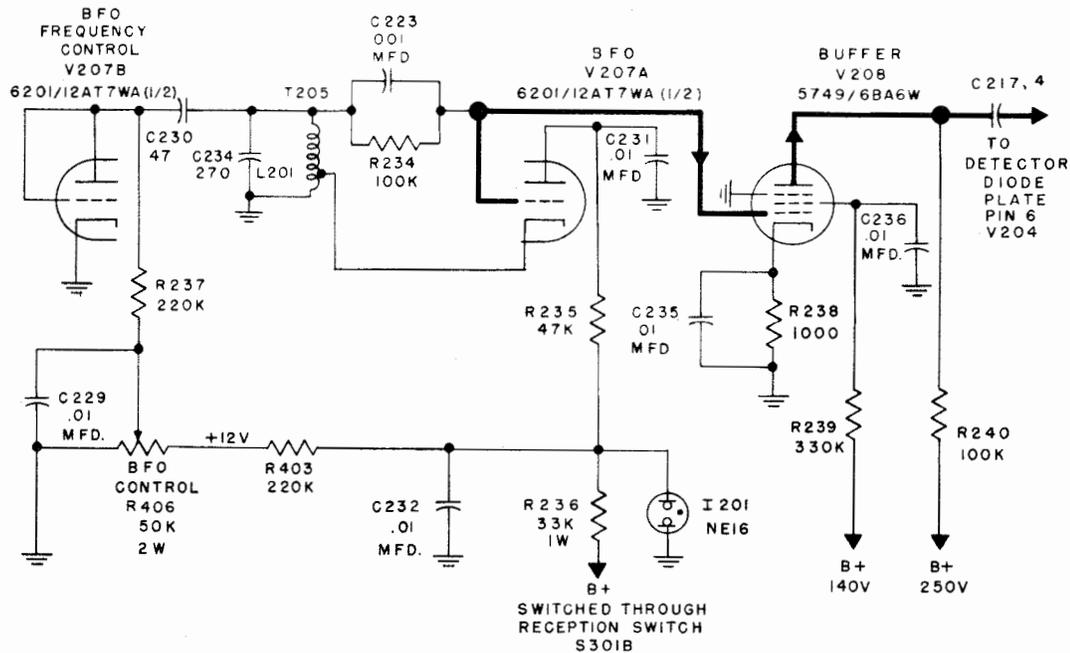

Figure 2-13. Simplified Schematic, BFO Oscillator - Control - Buffer
(3) BFO OSCILLATOR-BFO CONTROL-BUFFER.—Figure 2-13. These circuits function only during A1 or A1 BROAD operation and consist basically of a variable beat frequency oscillator with a center frequency of 120 Kc; a BFO frequency control tube which permits varying this BFO frequency from the front panel or a remote position; and a buffer amplifier stage which is used to isolate the BFO oscillator from signal level changes present at the detector diode plate. The oscillator frequency is normally adjusted to exactly 120 Kc with the BFO control at its midpoint and, in conjunction with the BFO control tube and BFO control, the frequency can be varied over a range of approximately  $\pm 2000$  cycles. The BFO oscillator is stable within 100 cycles for changes of  $\pm 10\%$  in line voltage, temperature changes from  $-15^{\circ}\text{C}$  ( $+5^{\circ}\text{F}$ ) to  $+50^{\circ}\text{C}$  ( $+122^{\circ}\text{F}$ ) and for RF gain variations of 100 db. The BFO oscillator consists of one half of a 6201/12AT7WA dual triode (V207A). This triode oscillator which is tuned to the correct frequency by means of C234 and L201 whose inductance is adjusted by a powdered iron slug in the top of T205. L201 has a tap which is connected to the cathode of V207. This tap provides the proper amount of feedback for stable oscillation. Grid conduction during oscillation causes a negative